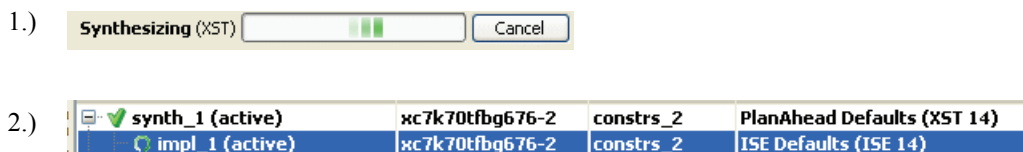

Figure 9-8: Run Status
The status of a run that is in-progress can be displayed in two ways for synthesis and implementation runs. These status displays, as shown in Figure 9-8, indicate that a run is in progress, and provide an opportunity to cancel the run if needed.
2. The Run Status indicator in the Design Runs view, as shown at the bottom of Figure 9-8, displays a circular arrow to indicate the run is in process. Select the run and use the **Reset Run** command from the popup menu to cancel the run.